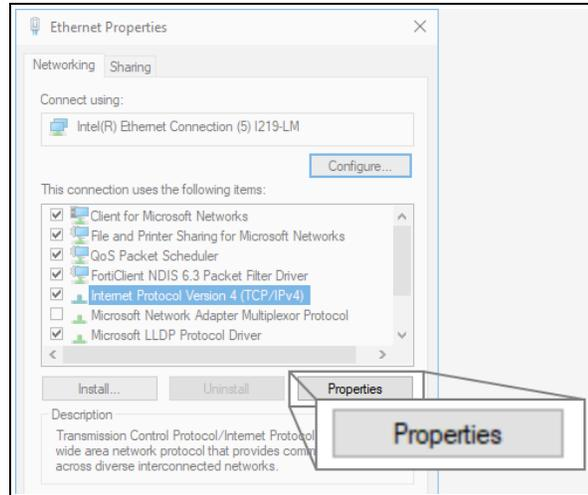

Figure 33: Ethernet Properties dialog box
7. Select the **Internet Protocol Version 4 (TCP/IPv4)** option. Figure 33